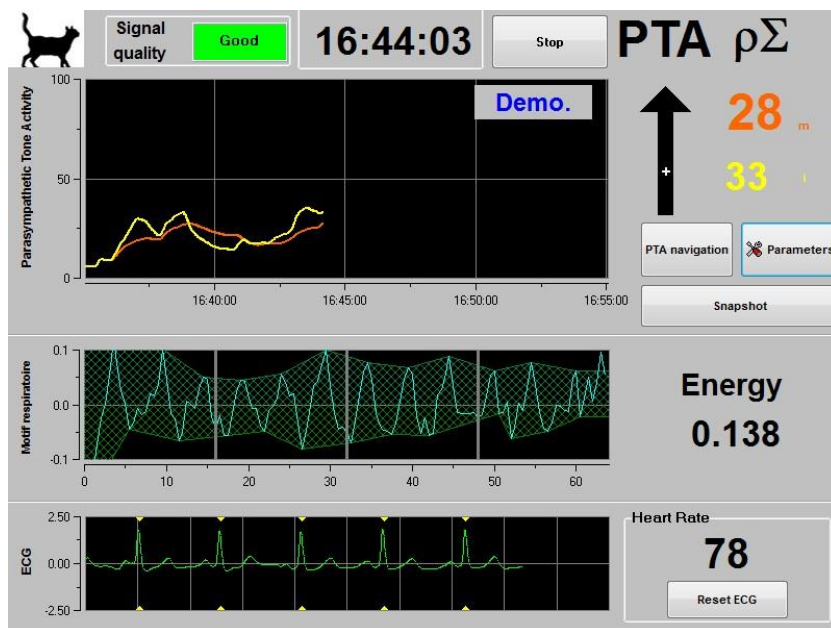

Figure 15
These rapid changes in $p\Sigma$ tone express in the sinus node of the heart by changes in the time intervals between two R waves of the electrocardiogram. The normal next RR series (stemming from a cardiac cycle and not from an extrasystole) establish the RR series. After filtering, normalization and resampling, the $p\Sigma$ compound of the RR series is obtained by measuring the generated surface by the respiratory cycles (figure 15). More important is the $p\Sigma$ tone, bigger is the measured area.
- **“Expert” mode:** the respiratory pattern and the Energy index are displayed and two curves (an instantaneous one and an averaged one) substitute the composite curve (figure 15).